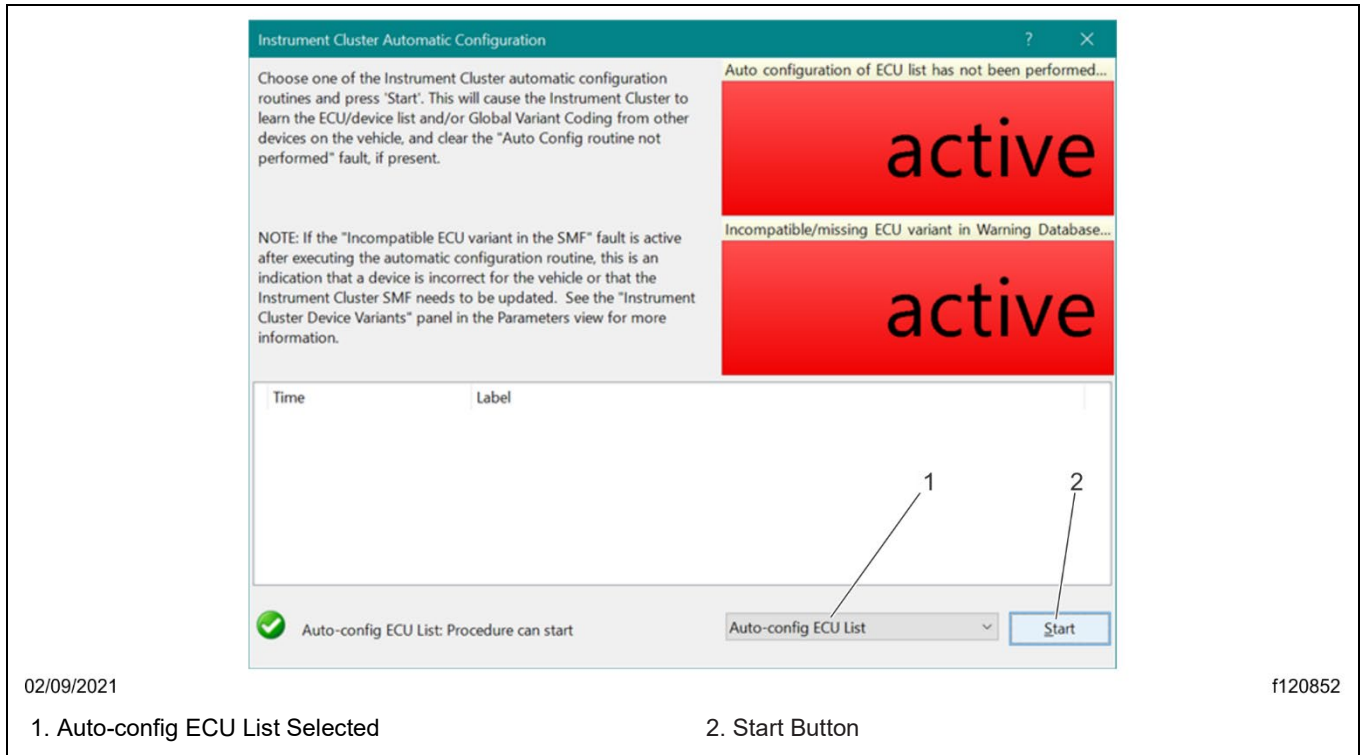

Fig. 24, 'Instrument Cluster Automatic Configuration' Window
- 7.21. Verify that the menu selection at the bottom of the window is 'Auto-config ECU List' and select 'Start.' See Fig. 24.